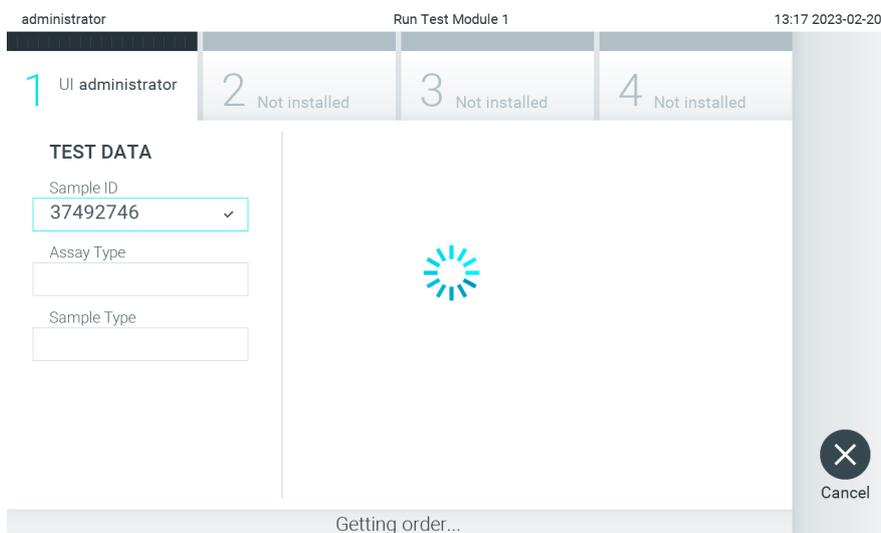

Figure 86. Display during test order retrieval.
- The sample ID will be sent to the host and while the QIAstat-Dx Analyzer 2.0 waits for a test order, the message “Getting order...” is displayed (Figure 86).